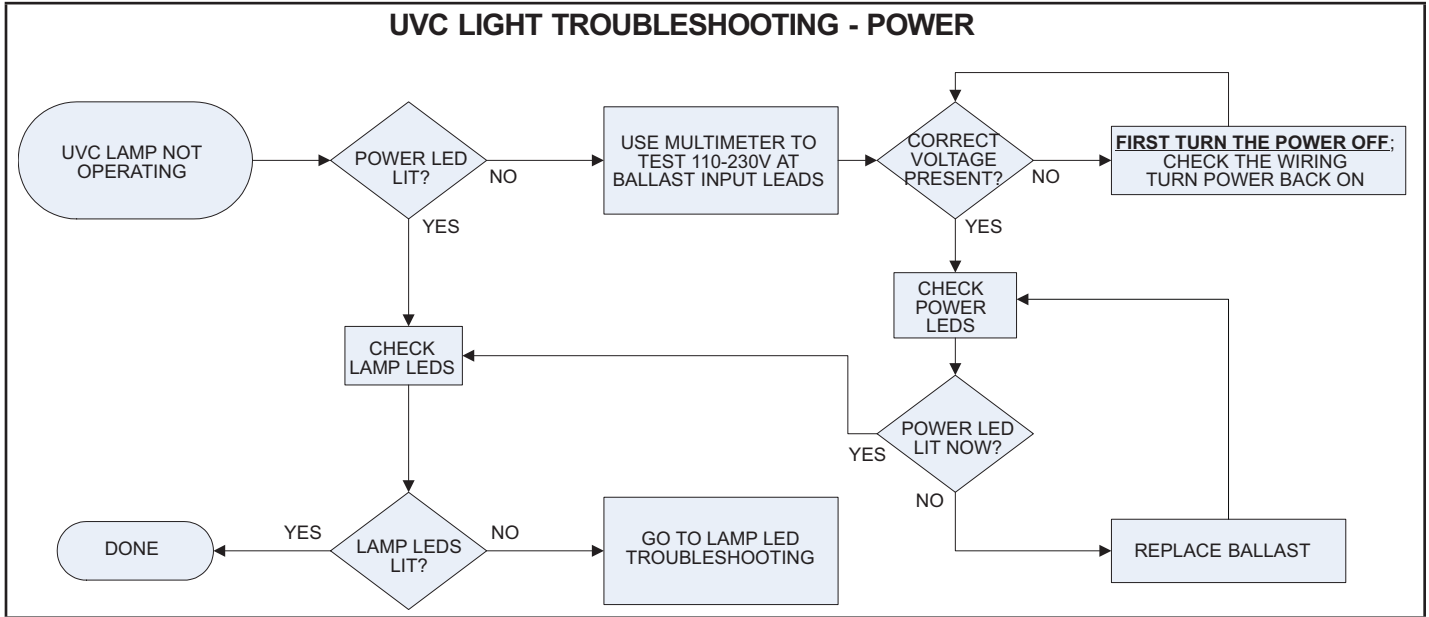
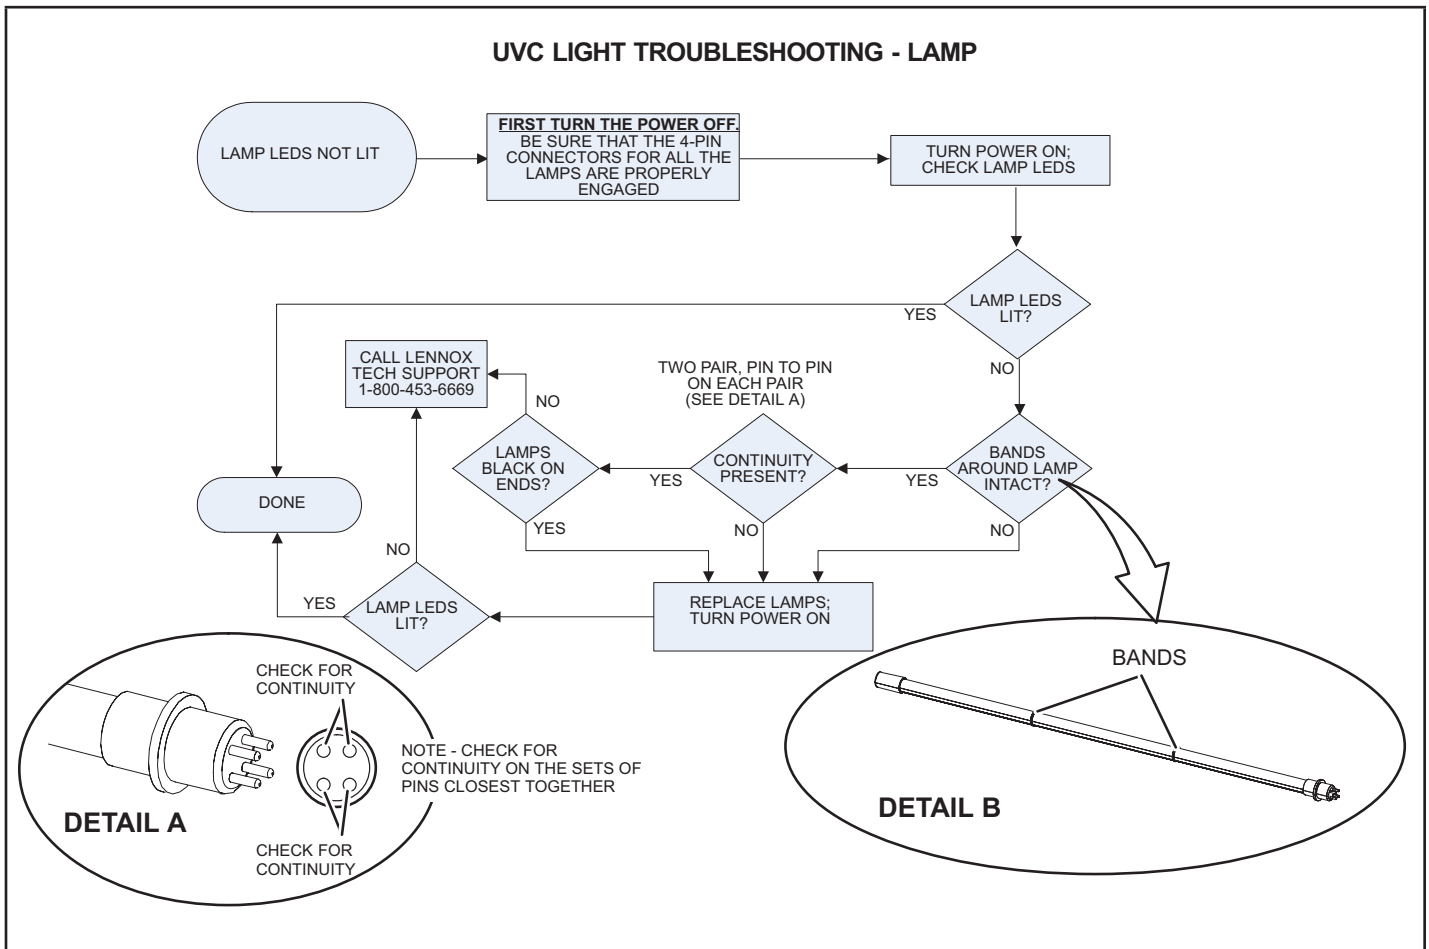

FIGURE 46
FIGURE 47
- 2 - Ohm-check across the lamp pins to check for continuity of lamp filaments (see FIGURE 47).
Troubleshooting charts are provided to aid in determining the cause of any problems encountered (FIGURE 46 and FIGURE 47).